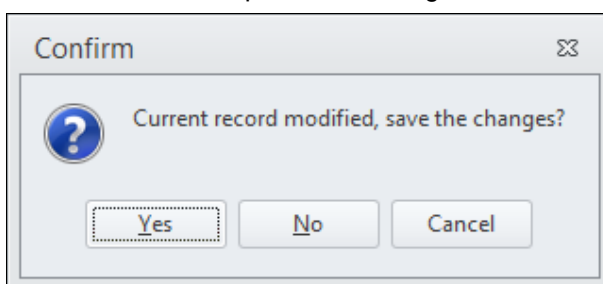

Figure 72 Country tax modification
- 4) Close the Tax by Country table by clicking on the X icon in the top right corner and click "Yes" to the question, see Figure 72.